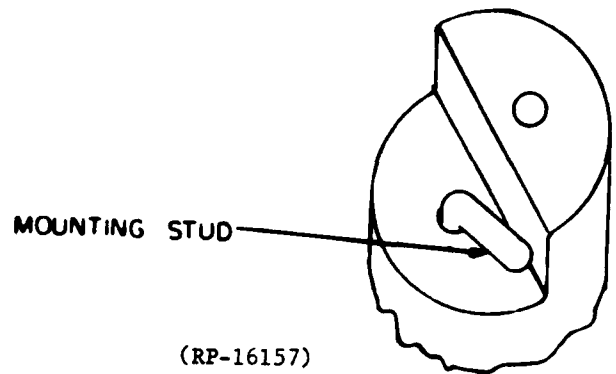

FIG. 4 MOUNTING OF 44-TYPE RESISTORS
3.4 When mounting 44-type vitreous enamel resistors the "L" head of the mounting stud should come in contact with the shoulder on the end of the resistor as shown in Figure 4. This prevents